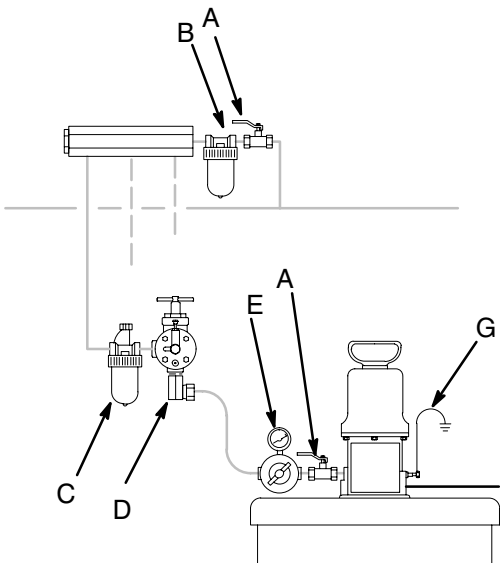

Fig. 3 02887
Install the accessories in the order shown in Fig. 3. Mount only the air regulator (E) and a master air valve (A) at the pump. Mount all other accessories on separate wall brackets to reduce stress on the pump inlet. Note that one air filter (B) can serve multiple pumps by using an air manifold downstream from the air filter.